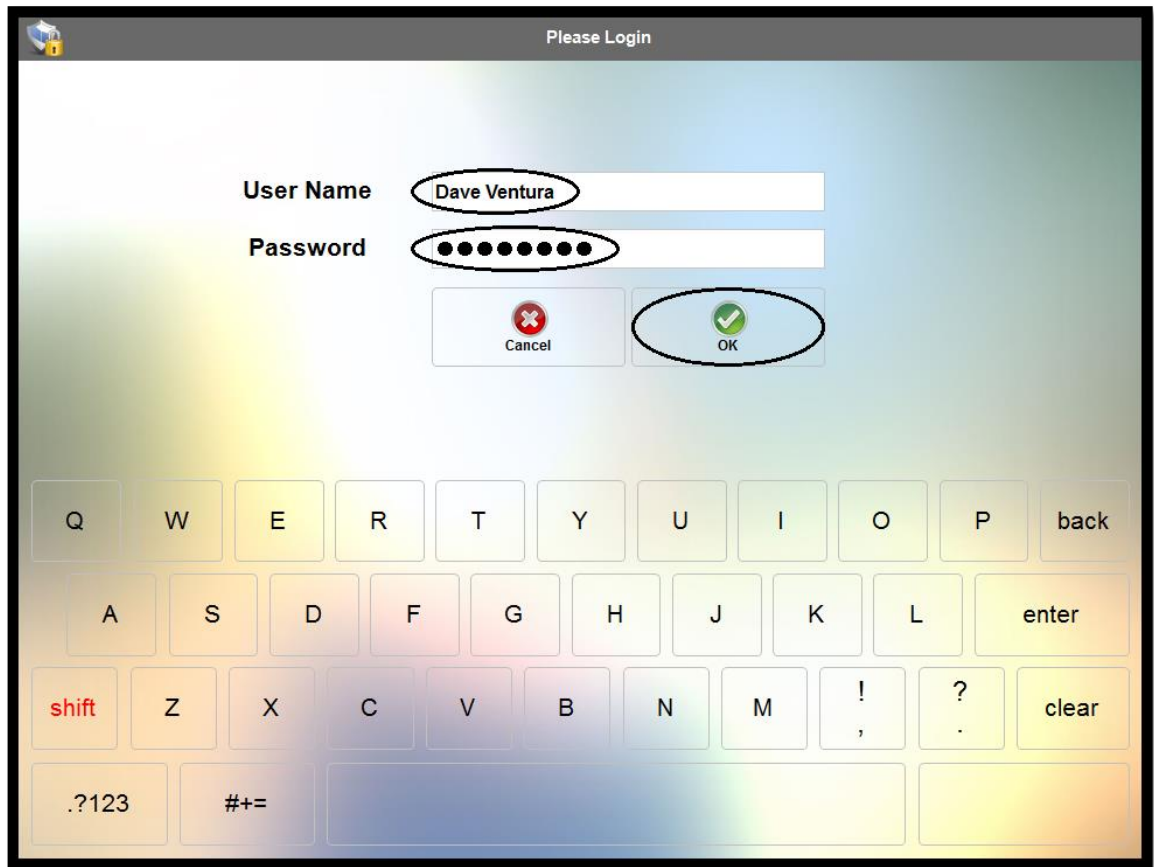

Figure 33-4
- Use the virtual keyboard to enter your user name and access code in the appropriate fields and then click the *OK* button to login (See Figure 33-4).